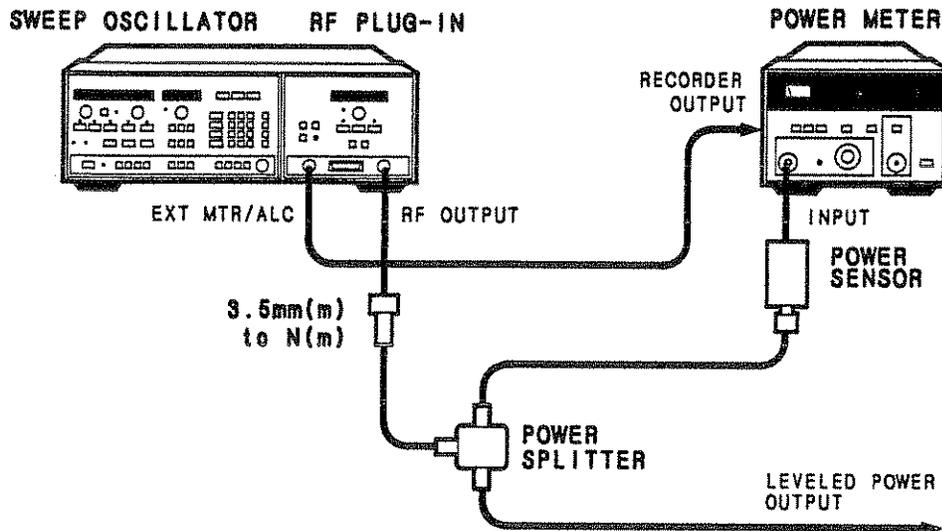

Figure 3-8. External Power Meter Leveling Set Up
3. Connect the equipment as shown in Figure 3-8. Select the +20 dBm range on the power meter.
To use leveled RF output power for testing external equipment, make the connection at the point marked Leveled Power Output, in Figure 3-8.